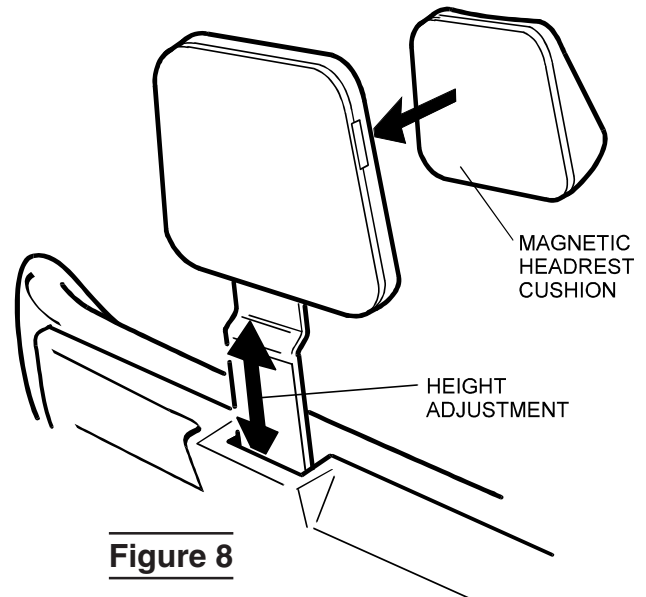

Figure 8
3. The headrest cushion is held to the headrest by a magnet and can be positioned as desired (See Figure 8).